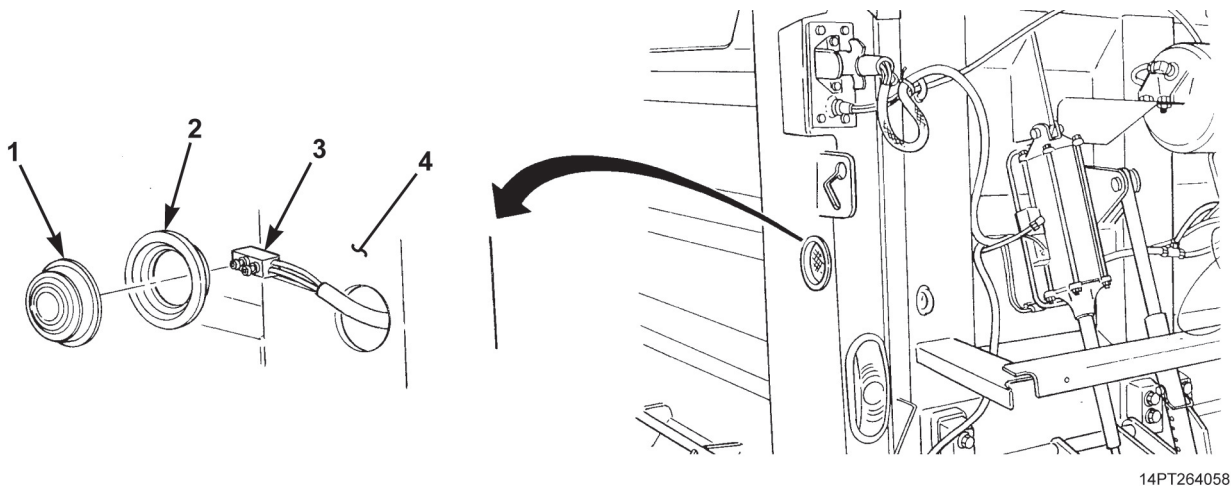

Figure 1. Marker Clearance Light Replacement.
2. Disconnect lights wiring harness connector (Figure 1, Item 3) from back of marker clearance light (Figure 1, Item 1). Remove marker clearance light.
3. Remove grommet (Figure 1, Item 2) from dump body (Figure 1, Item 4).
1. Install grommet (Figure 1, Item 2) in dump body (Figure 1, Item 4).
2. Connect lights wiring harness connector (Figure 1, Item 3) to back of marker clearance light (Figure 1, Item 1).
3. Install marker clearance light (Figure 1, Item 1) in grommet (Figure 1, Item 2).